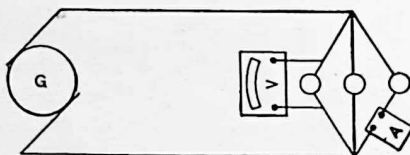

FIG. 49.
**Problem 33.** In Fig. 49, the three lamps have practically the same resistance. Voltmeter (*V*) reads 113 volts. Ammeter (*A*) reads 0.45 amp.